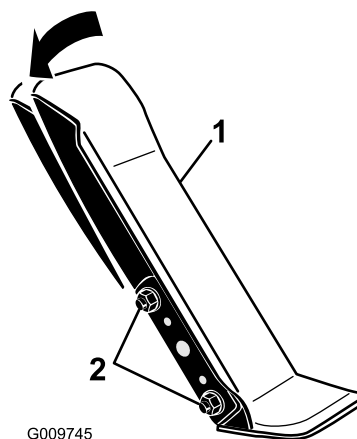

Figure 64
1. Loosen the 2 nuts and bolts securing the left side of the traction pedal to the bracket (Figure 64).
2. Pivot the pedal to the desired operating angle and tighten the nuts (Figure 64).